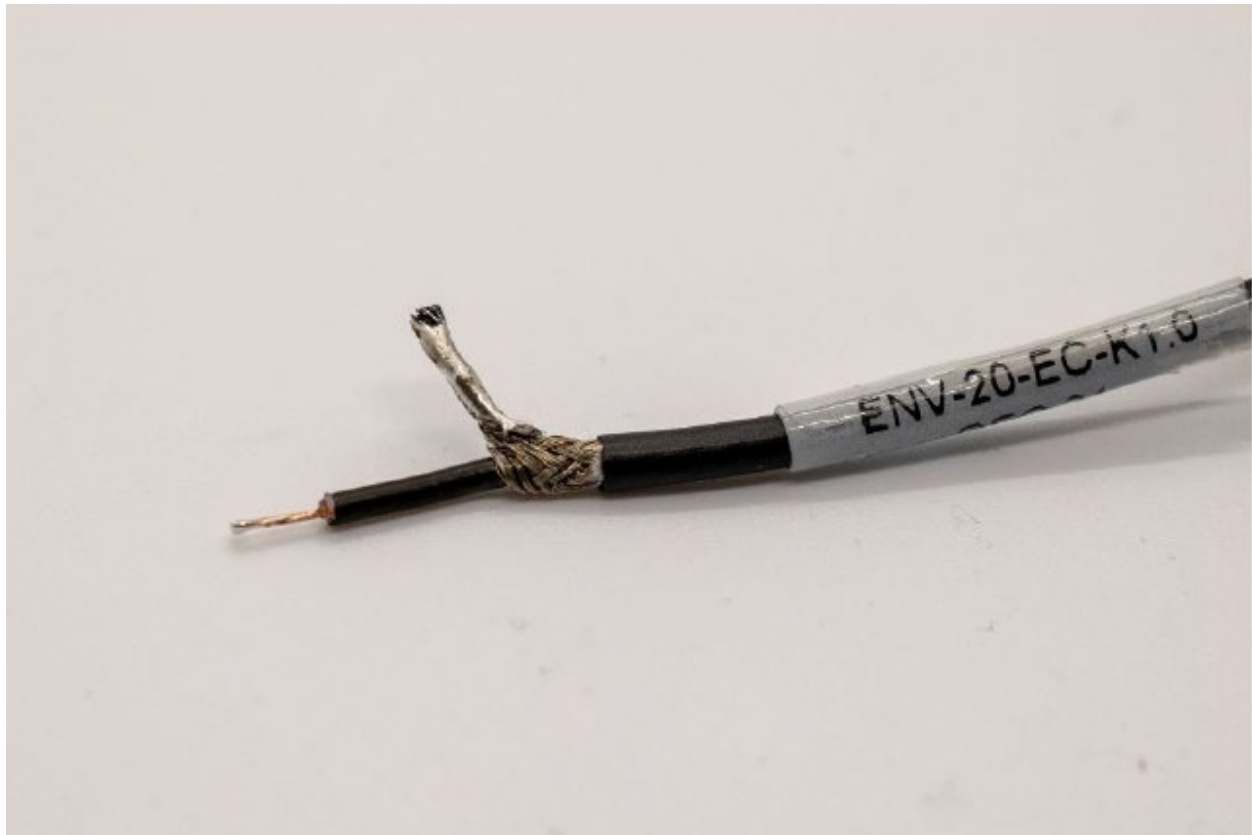

Figure 12. Conductivity and oxygen sensor leads. (Thaler, et al., n.d.).
Step 5. Cut the SMA connector off the conductivity sensor. Strip 2 cm of insulation off the cable. Carefully unravel the braided outer wire and twist together on one side as in Figure 12. Use solder to secure the twist. This will be the negative side of the probe, and the inner wire will be the positive. Repeat with the oxygen sensor.